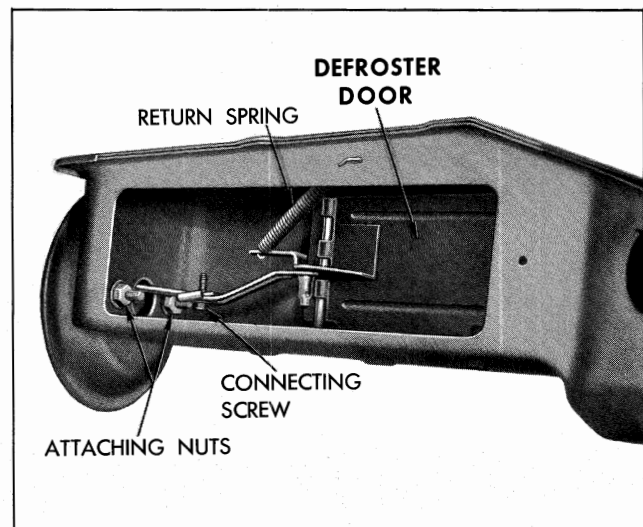

Fig. 4-5 Defroster Diaphragm (Bottom View)
3. Remove two diaphragm attaching nuts and remove diaphragm (Fig. 4-5).